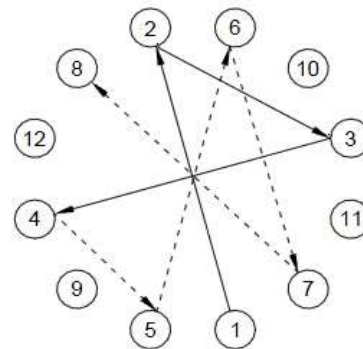

Fig.7 Sequence of Tightening
- Tighten the other bolts in the sequence shown Fig.7.